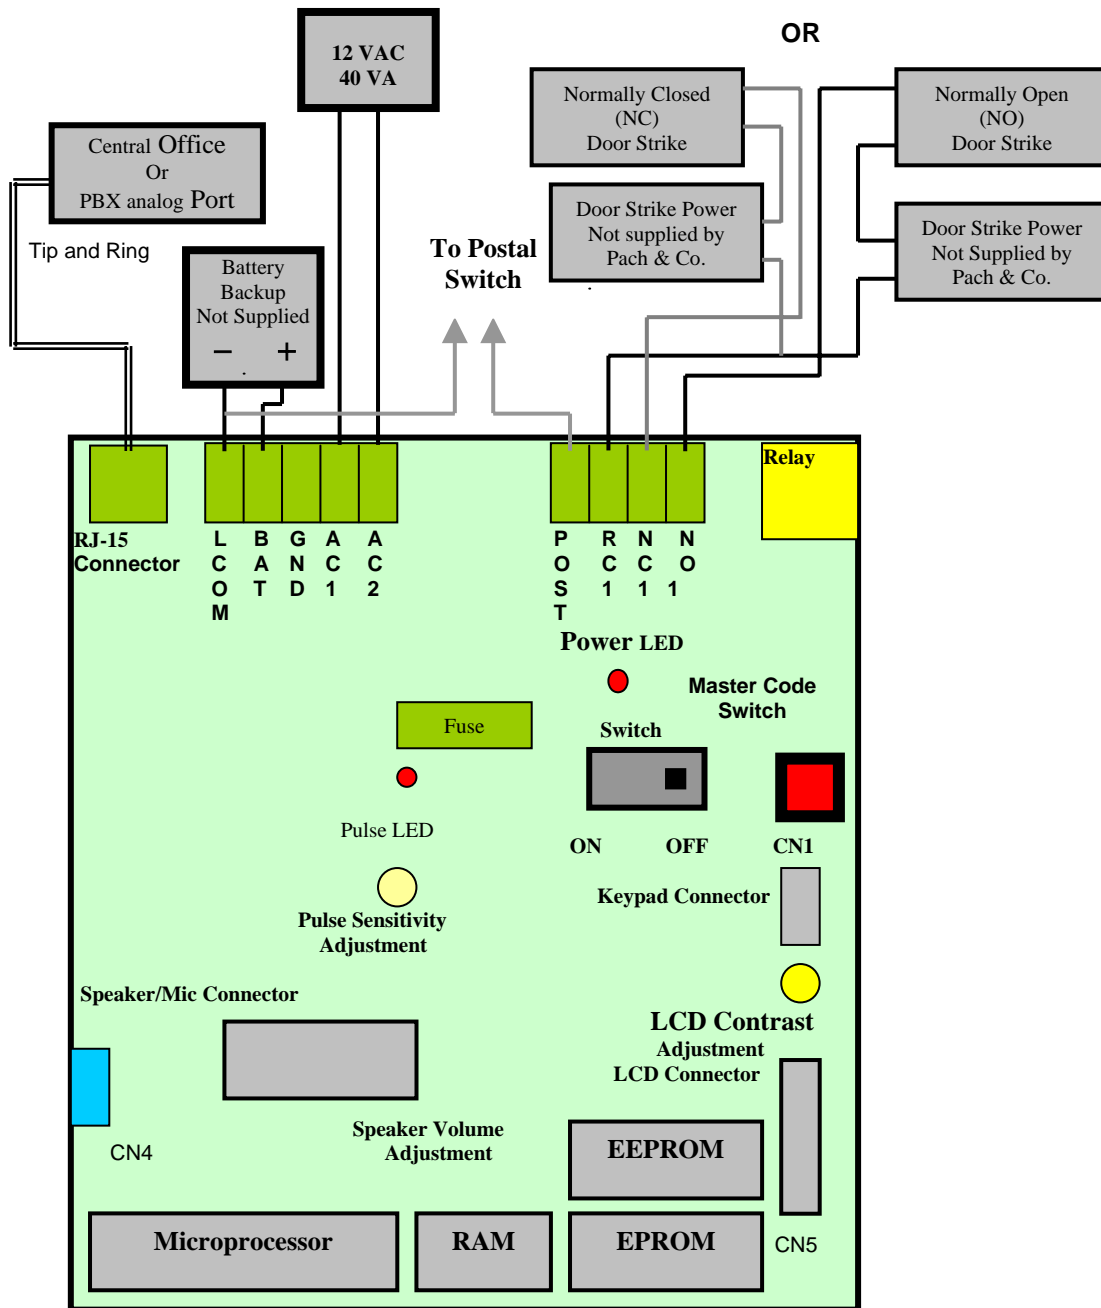

Figure 2.1 AC Power, Battery back-up and Telephone Wiring Diagram
- Connect the AeGIS RJ-15 to a telephone line. If ASP-1 surge protection is used, see ASP-1 instruction. See also figure 2.1 for wiring diagram. **You MUST use 18 gauge-shielded wire minimum** to avoid radio reception or any other noise problems.
- Connect the transformer's output (secondary) to AC1 and AC2 (labeled on the board, polarity is not important) and the primary to 110 VAC. If ASP-1 is used, see the ASP-1 instructions. **You MUST use 18 gauge-stranded, shielded wire minimum.** See figure 2.1 for wiring diagram.
- The connection is polarity sensitive. Connect the battery's (+) terminal to the connector labeled (BAT) on the AeGIS and the battery's (-) terminal to the connector labeled LCOM on the AeGIS. See figure 2.1 for wiring diagram.
See figure 2.1 for door strike wiring diagram. **You MUST use 18 gauge-shielded wire minimum.** Use an MOV or other surge suppresser device across the door strike leads to limit the possibility of door strike related system failures. The system relay specifications are below.